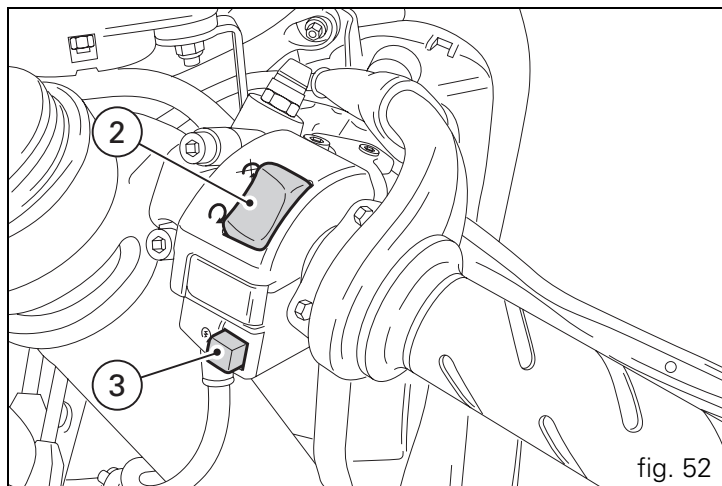

fig. 52
2) Check that the stop switch (2, fig. 52) is positioned to  (RUN), then press the starter button (3, fig. 52).